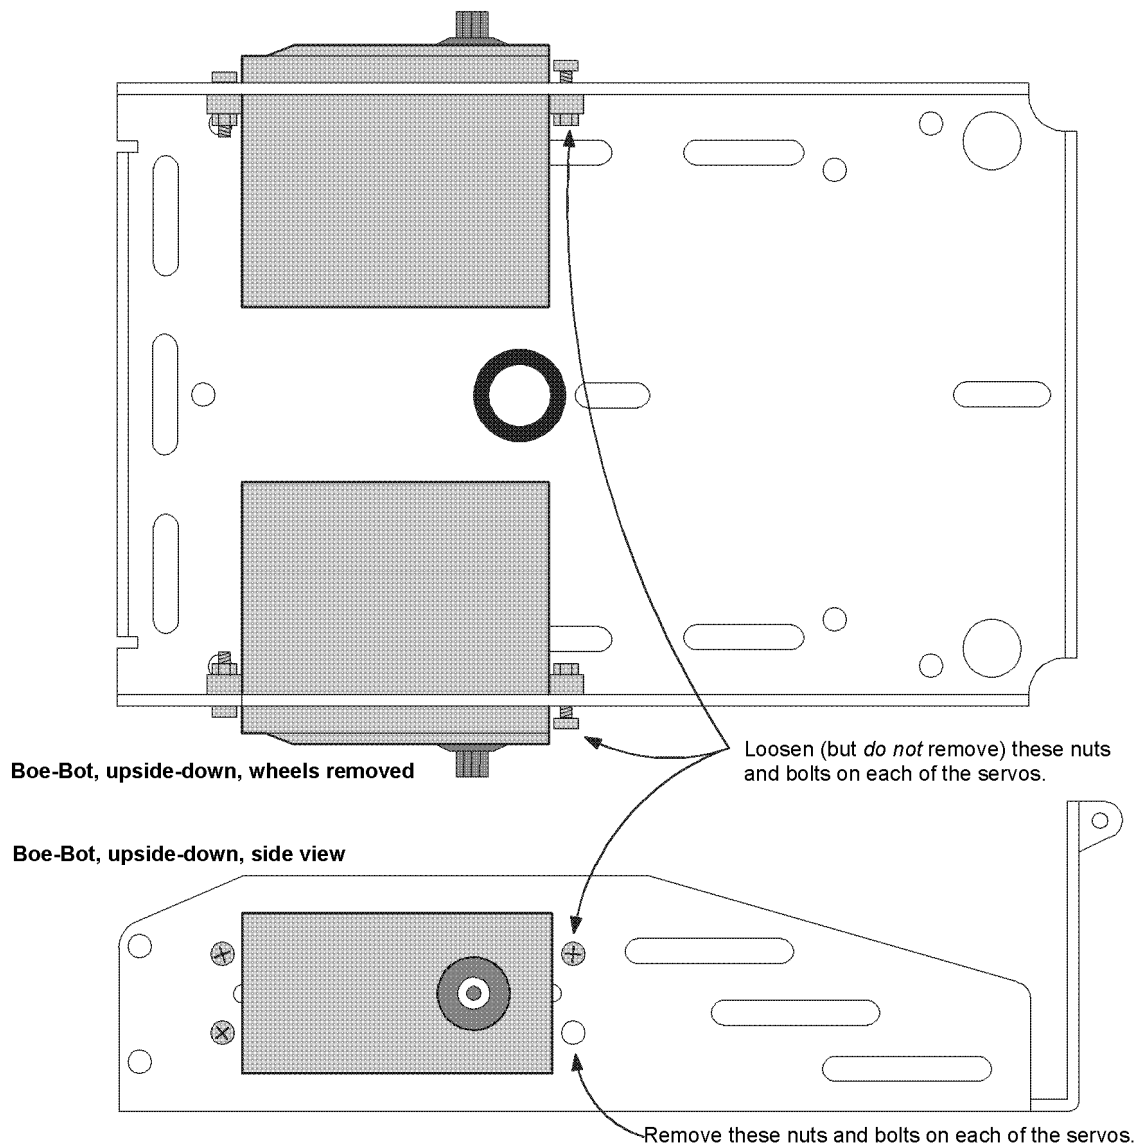

Figure 2
Step 5. Loosen, but do not remove, the (2) #4-40 screws that are closest to the “bottom” of the Boe-Bot, as shown in Figure 2.
Step 6. Remove the (2) nuts and (2) screws that are closest to the top of the chassis, as shown in Figure 2.